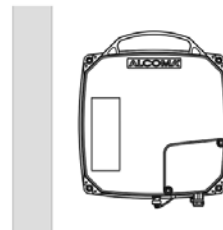

Figure 27 Setting of polarization for ZENITH 80
- Rotate ODU by 90° to the left or to the right. Grommet of interconnect cable must point down for horizontal polarization and to the side for vertical polarization – see figure 27.